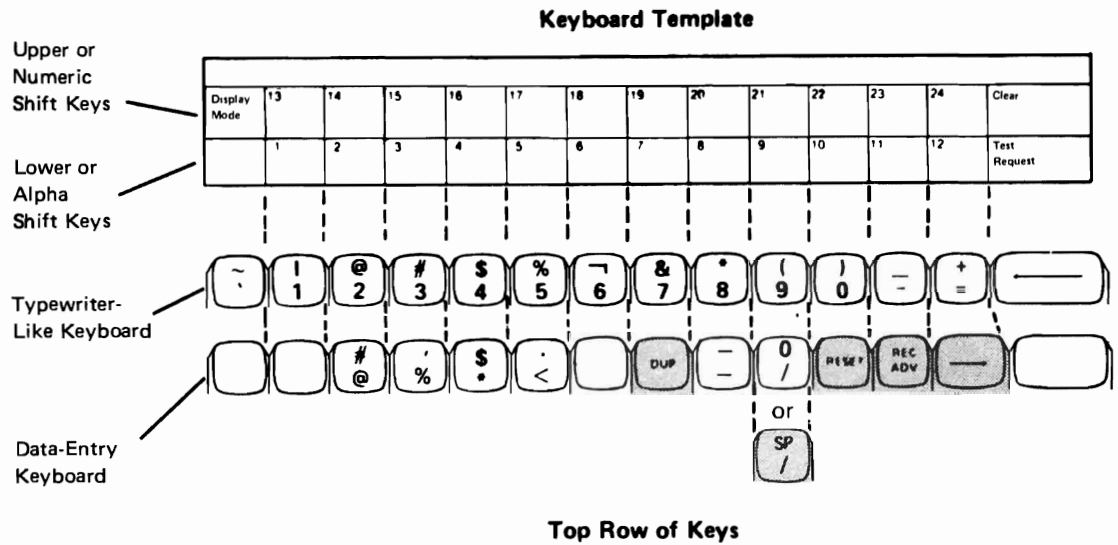

Figure 1-7. CF Keys
The relationship between the CF keys and top row keys on the 5251/5252 keyboards is summarized in Figure 1-7.
2. Press the top row key matching the number of the desired CF key as shown in Figure 1-7.
3. Press the top row key matching the number of the desired CF key as shown in Figure 1-7.
Each template is divided into blocks that represent individual keys on the top row of the keyboard. When this template is placed in the depression above the keyboard, each block representing a specific command function is positioned above the appropriate top row key. To obtain the function indicated in the block, you press the key below it. If the block is in the upper row of the template, you must also press the Shift key when you press the top row key below the block. As an additional reference, the number in the upper left corner of each block indicates the CF key number as shown in Figure 1-7. For example, the block containing the number 13 is the CF13 key shown in Figure 1-7.